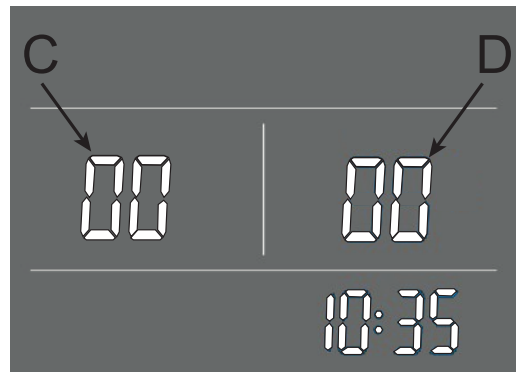

Figure 6-4 - Parameter value change
5.-now you enter the parameter list, where “C” is the parameter and “D” the parameter value, see Figure 6-4;